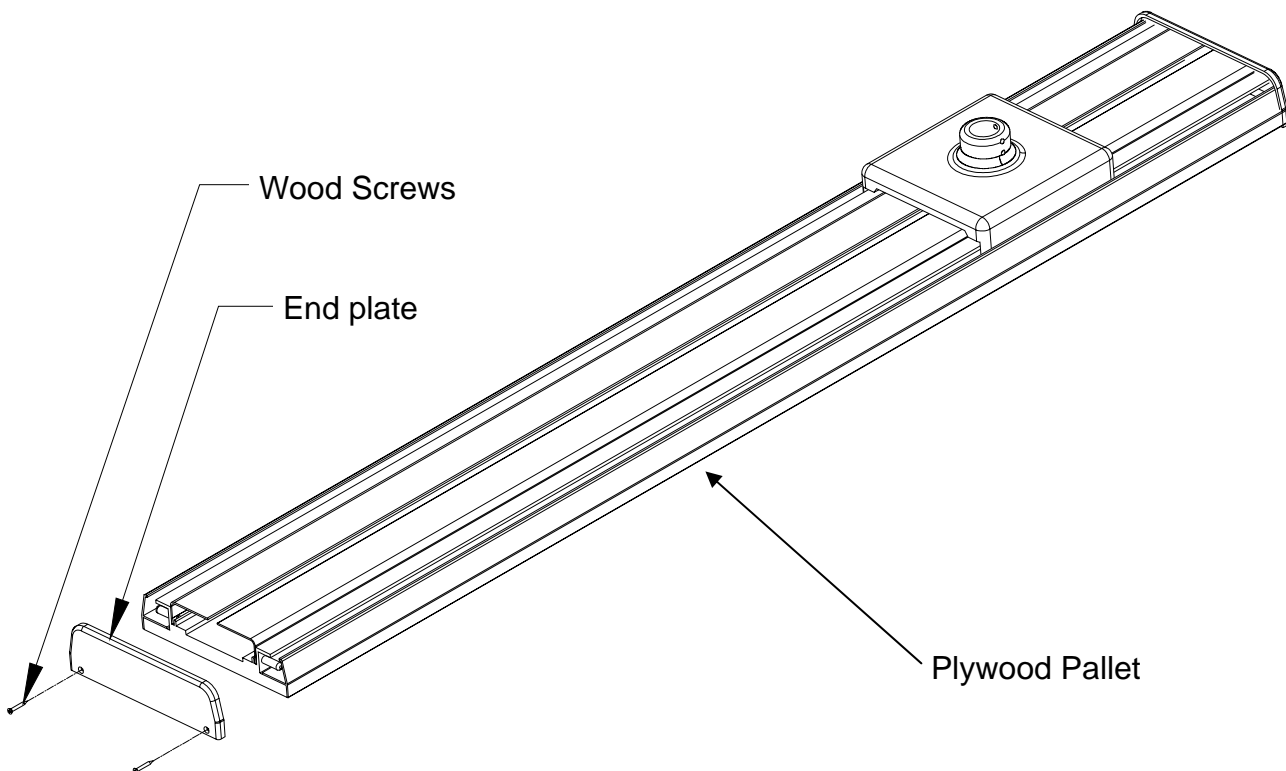

FIGURE 22: End Plate Removal
- Take the end plate/plates P/N1001511 off the side of the track by unfastening the two (2) #6 wood screws. See figure 22.